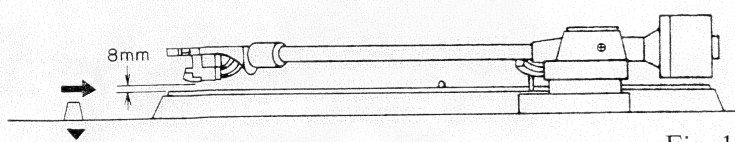

Fig. 18
3. Put a record on and set the elevation control to ▼. Adjust screw (a) until there is an 8 mm gap between the tip of the stylus and the surface of the record. (Refer to Figs. 18, 19)